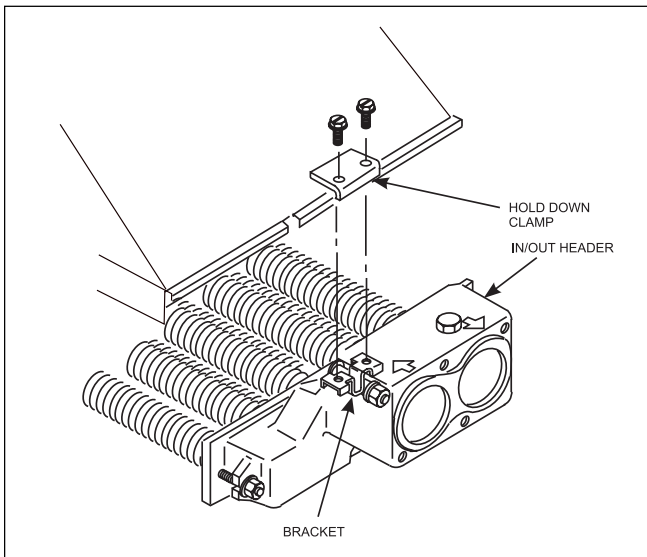

Figure 8. Flue collector hold-down brackets.
5. Remove the screws securing the two flue collector hold down clamps and remove the clamps (see Figure 8). Remove flue collector.